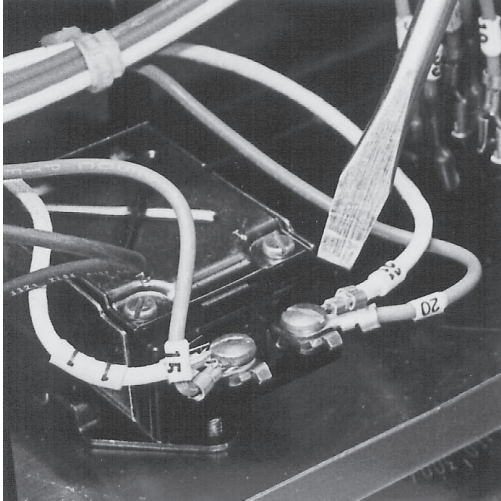

Fig. 15
4. Note and remove all wiring associated with thermostat. (Fig. 15)